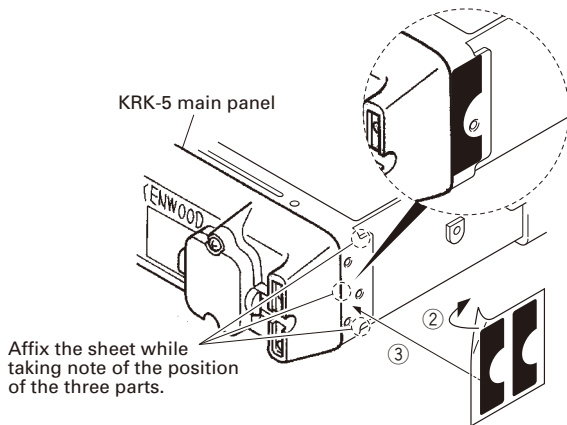

Fig. 2-1-2
4. Affixing the sheet (G11-4379-04) for the waterproof (Fig.2-1-2).
- (1) Remove the covering paper of the sheet ②.
- (2) Affix the sheet while taking note of the position of the three parts as shown in Fig.2-1-2 ③.